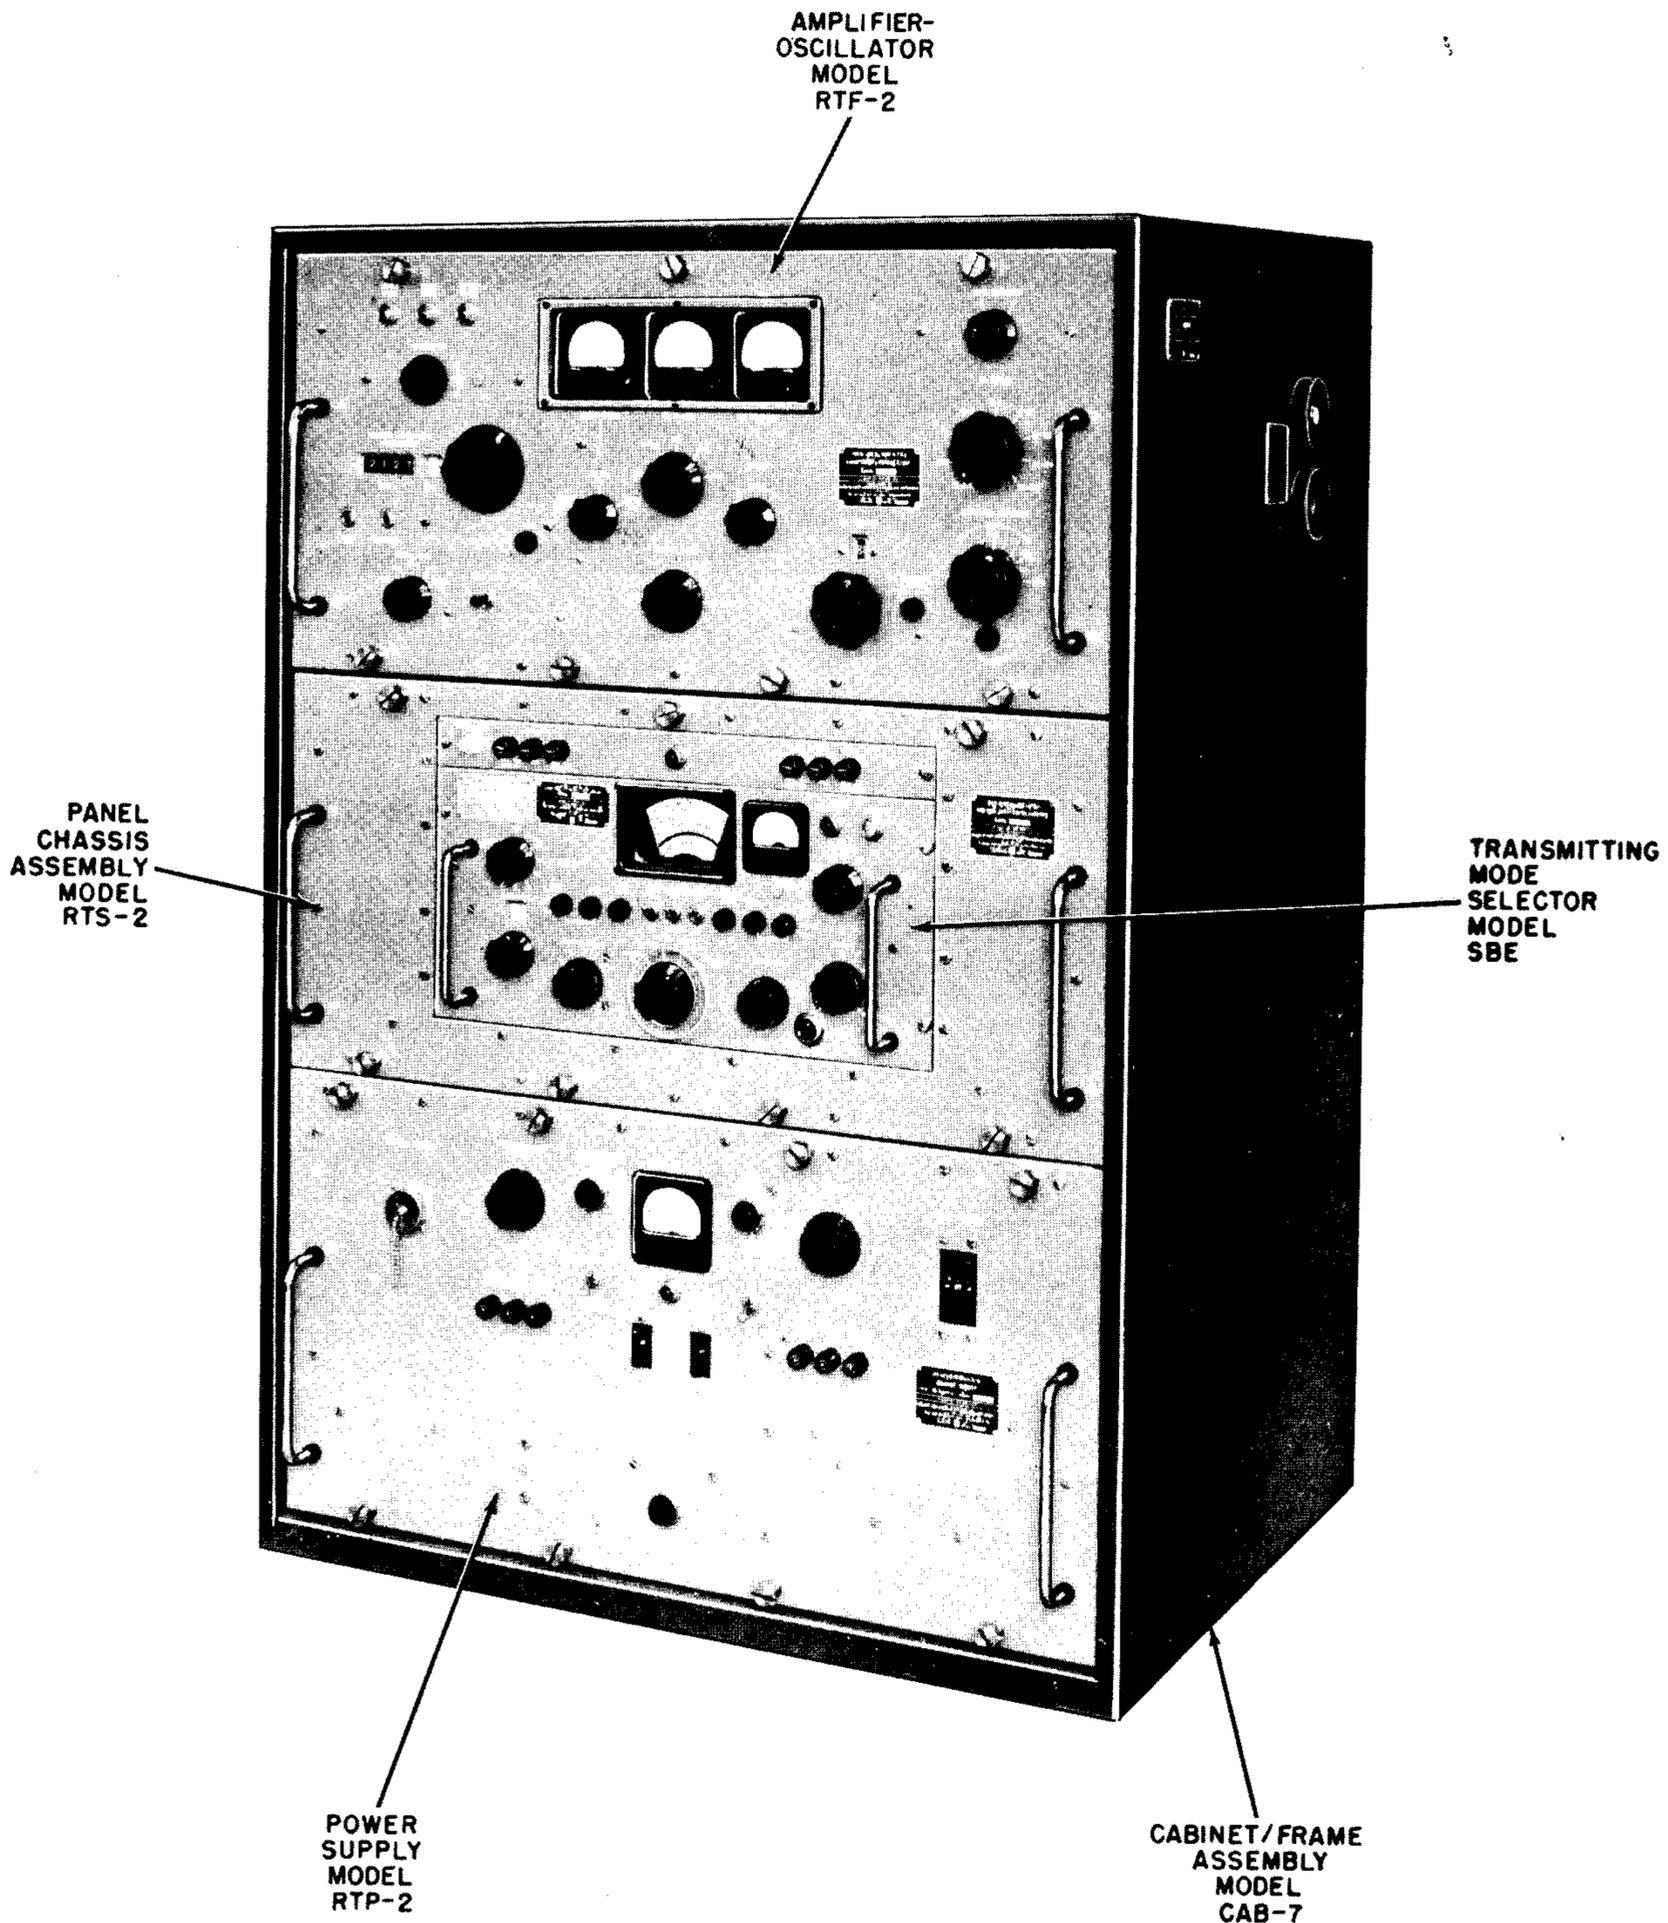

Figure 1-1. Radio Transmitters, Models GPT-750D-2 and GPT-750E-2
a. This manual covers Radio Transmitter Model GPT-750D-2 and Model GPT-750E-2 (figure 1-1). The information contained in this manual is presented on a system basis and will aid operating and maintenance personnel in realizing the full performance capabilities of the equipment. An individual equipment manual covering the sideband exciter is also provided; depending on the radio transmitter model supplied. Refer to table 1-1. When detailed information regarding one of the units covered in the individual equipment manual is required, reference is made to the applicable equipment manual. Complete description, installation, system and unit trouble-shooting and maintenance instructions, and a parts list in the individual equipment manual provide all information required to order any repair part of the equipment.
d. The lower drawer (figure 1-1) contains the Power Supply Model RTP-2 which provides operating Power for the Amplifier-Oscillator. Eight captive screws secure the unit in the cabinet. All operating controls and indicators are mounted on the front panel; other adjustments are located in the relay deck and on the main power supply chassis. Handles on the front panel facilitate removal of the unit or opening the drawer for access to the internal adjustments.